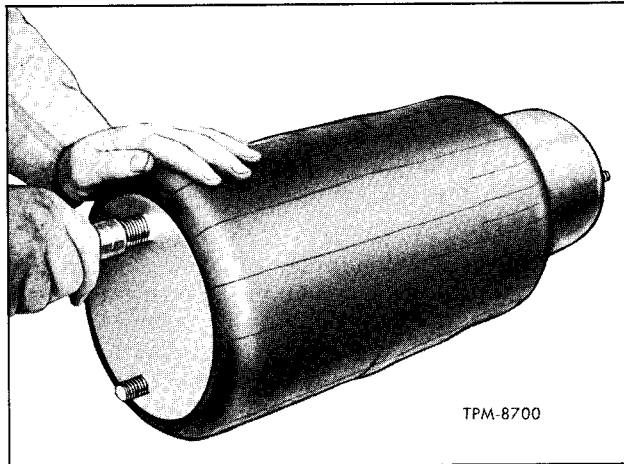

Figure 19—Seating Retainers in Bellows with Air Pressure
3. Apply air in bellows through opening in upper retainer stud (fig. 19) to seat lower and upper retainers in bellows.